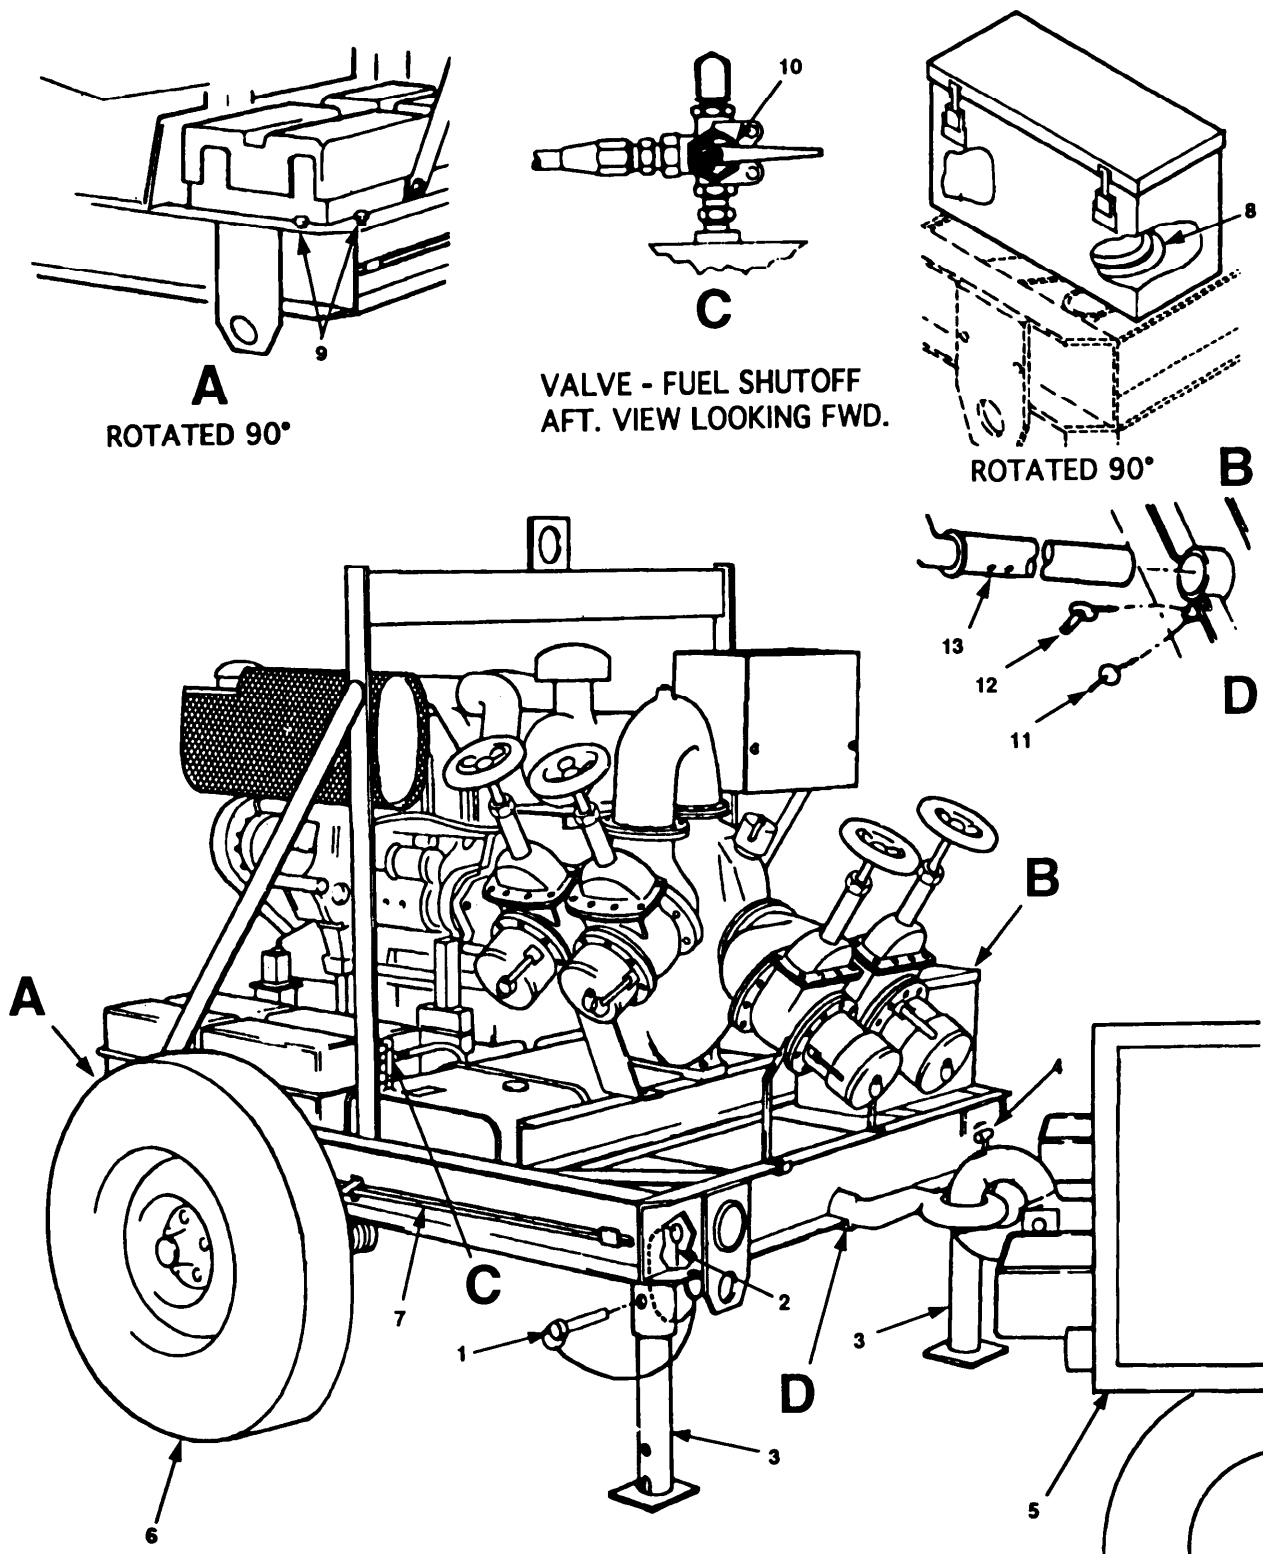

Figure 2-3. Preparation for Use.
- (1) Position the equipment as close as possible to the fuel source. Keep suction lift as low as possible.
- (2) Remove pins (figure 2-3, 1 and 2) and extend trailer support legs (3) as far as possible.
- (3) Reinstall pins (1 and 2) to secure trailer support legs (3).
- (4) Release pintle (4) and disconnect pumping assembly from towing vehicle (5).
- (5) Secure wheels (6) and remove ground rod (7).
- (6) Drive ground rod (7) into ground.
- (7) Connect ground cable (8) between ground rod (7) and ground studs (9) .
- (8) Refer to data plate and ensure two fuel selector valves (10) are positioned as follows:
- (9) Remove quick release pins (11 and 12) from trailer tongue and slide tongue shaft (13) inward to non-extended position and align holes.
- (10) Insert quick release pins (11 and 12) and secure tongue in non-extended position.